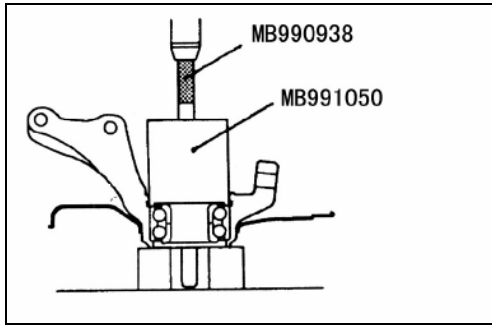

Fig.12-15
(1) Wheel bearing installation see Fig.12-15